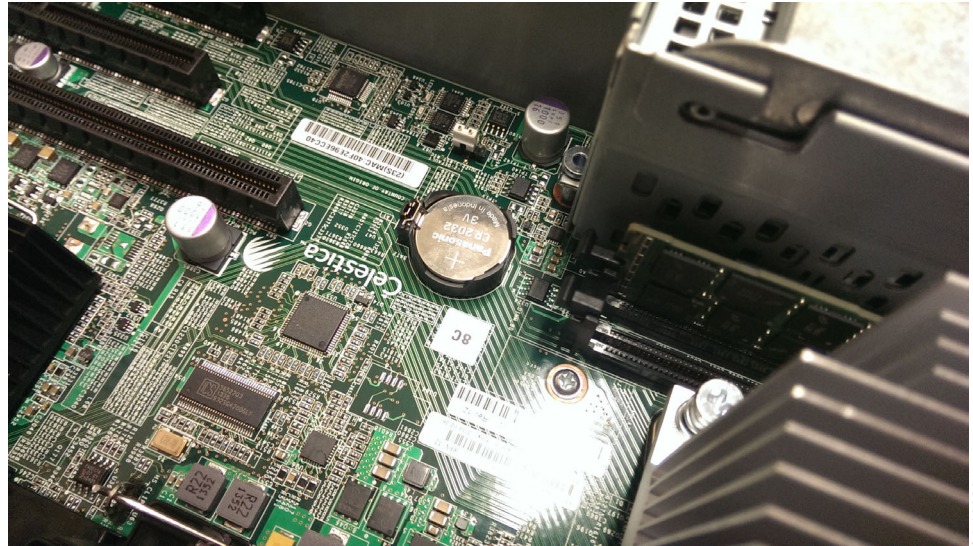

Figure 117. Replacing a CMOS Gen2 battery
3. Locate the CMOS battery inside the node canister.. See Figure 117 on page 371